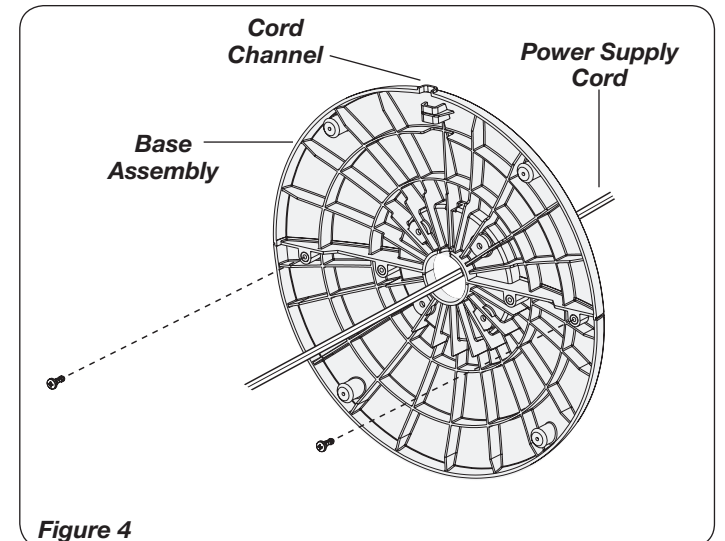

Figure 4
4. Secure the Base halves with (2) M4 X 13mm Screws. Thread the **Power Supply Cord** through the large hole in the **Base Assembly**. **NOTE:** The **Cord Channel** on the bottom of the Base should be towards the back of the Heater. (Figure 4)
REMOTE CONTROL (Figure 4)
1. Install the two “AAA” batteries supplied. (Figure 4)